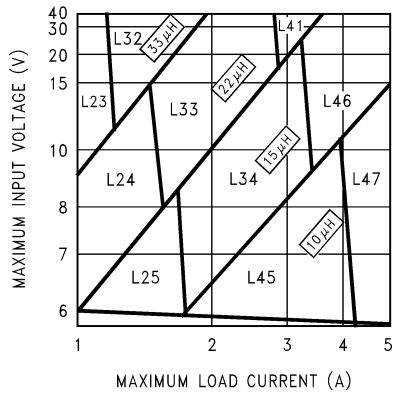
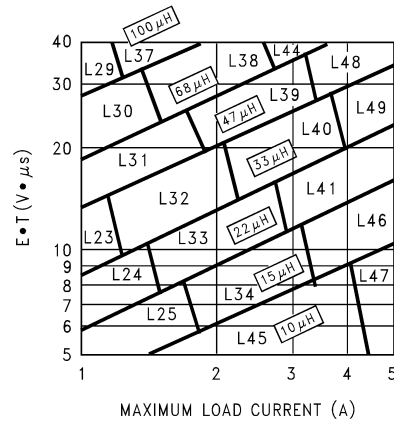

Figure 21. LM2678-3.3
Figure 24. LM2678-ADJ
Step 3: Determine the inductor required by using one of the four nomographs, Figure 21 through Figure 24. Table 1 provides a specific manufacturer and part number for the inductor.
Step 5: Determine an input capacitor from Table 6 for fixed output voltage applications. Use Table 3 to find the specific capacitor type. For adjustable output circuits select a capacitor from Table 3 with a sufficient working voltage (WV) rating greater than $V_{in\ max}$, and an rms current rating greater than one-half the maximum load current (2 or more capacitors in parallel may be required).
Step 3: Use the nomograph for the 3.3V device, Figure 21. The intersection of the 16V horizontal line ($V_{in\ max}$) and the 4A vertical line ($I_{load\ max}$) indicates that L46, a $15\mu\text{H}$ inductor, is required.
Step 3: To use the nomograph for the adjustable device, Figure 24, requires a calculation of the inductor Volt•microsecond constant ($E \cdot T$ expressed in $V \cdot \mu s$) from the following formula:
Using Figure 24, the intersection of $27V \cdot \mu s$ horizontally and the $3.5A$ vertical line ($I_{load \max}$) indicates that L48, a $47\mu H$ inductor, or L49, a $33\mu H$ inductor could be used. Either inductor will be suitable, but for this example selecting the larger inductance will result in lower ripple current.
When using the adjustable device in low voltage applications (less than $3V$ output), if the nomograph, Figure 24, selects an inductance of $22\mu H$ or less, Table 12 and Table 13 do not provide an output capacitor solution. With these conditions the number of output capacitors required for stable operation becomes impractical. It is recommended to use either a $33\mu H$ or $47\mu H$ inductor and the output capacitors from Table 12 and Table 13.